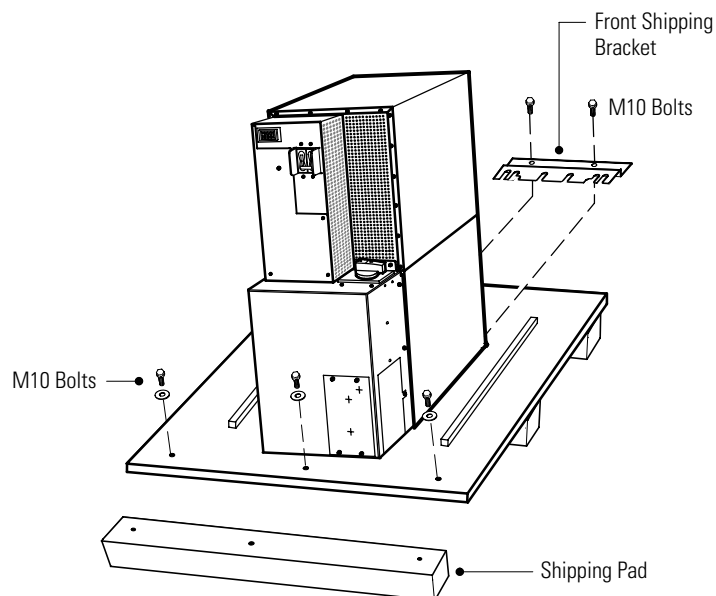

Figure 8. Removing the Front Shipping Bracket and Shipping Pad
6. Remove the three M10 bolts securing the rear shipping pad to the pallet and remove the shipping pad (see Figure 8).